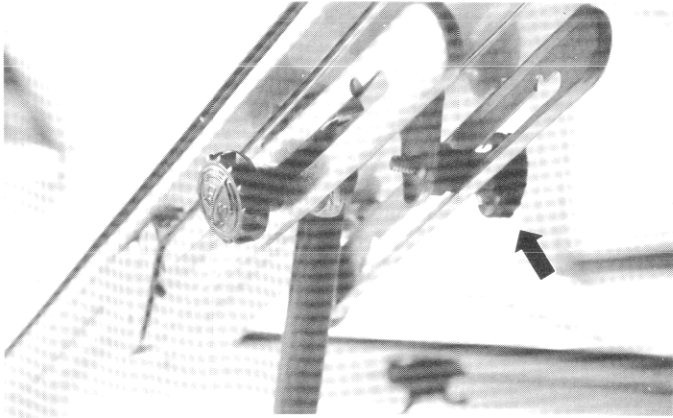

Figure 14
1. Turn each knob counterclockwise. See figure 14.